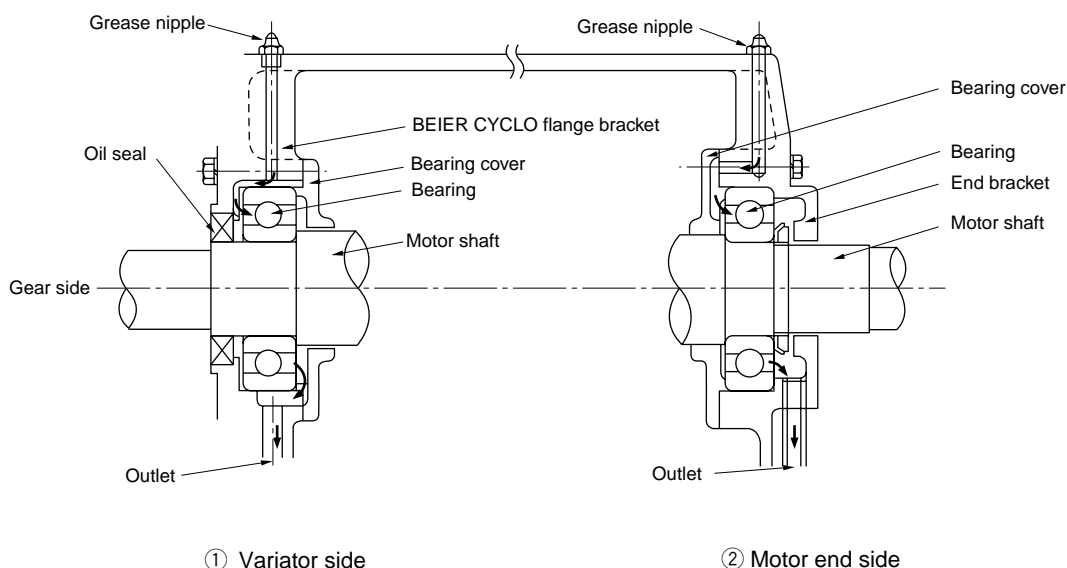

Fig. 20 Construction of Open Bearing in the Motor
(3) Grease Supply and Discharge (Refer to Fig.20)
- ① Remove the discharge plug, discharge old grease and add new grease while unit is operating.